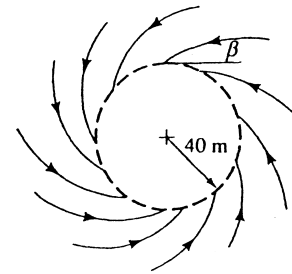

Fig. P8.25
**8.25** Let the vortex/sink flow of Eq. (4.134) simulate a tornado as in Fig. P8.25. Suppose that the circulation about the tornado is  $\Gamma = 8500 \text{ m}^2/\text{s}$  and that the pressure at  $r = 40 \text{ m}$  is 2200 Pa less than the far-field pressure. Assuming inviscid flow at sea-level density, estimate (a) the appropriate sink strength  $-m$ , (b) the pressure at  $r = 15 \text{ m}$ , and (c) the angle  $\beta$  at which the streamlines cross the circle at  $r = 40 \text{ m}$  (see Fig. P8.25).